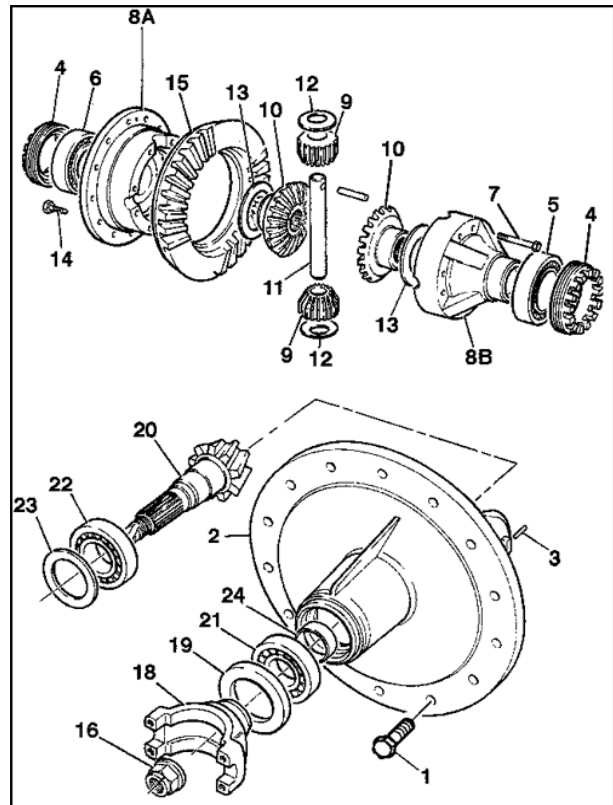

Fig 49.
- 1 Drain the oil from the drive head. Remove the propshaft → Fig 49. (□ 55).